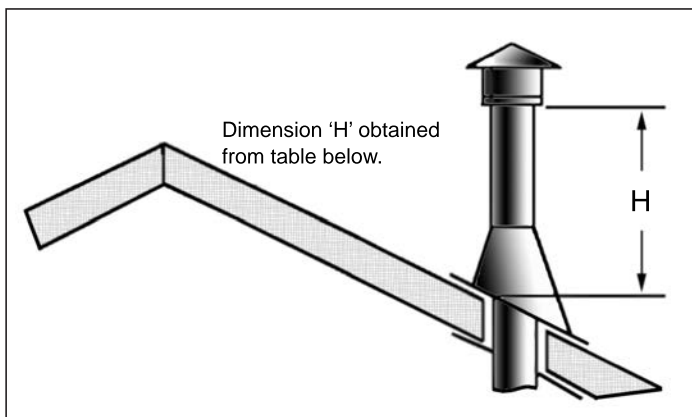

**Figure 29: Vertical Vent Termination Installation.**
6. Once the pipe sections have been joined, and run up through the hole in the roof, slip an elbow strap over the exposed sections, bend the support straps outwards, and push the elbow strap down to the roof level, as shown in Figure 29. Tighten the clamp around the pipe section. Use a level to make sure the pipe is truly vertical. With roofing nails, secure the support straps to the roof. Seal the nails holes heads with non-hardening mastic. Trim the excess length of the support straps that extend out beyond the edge of the flashing.
7. Slip the flashing over the pipe section protruding through the roof. Secure the base of the flashing to the roof with roofing nails. Use a non-hardening sealant between the uphill edge of the flashing and the roof. Insure the roofing material overlaps the top edge of the flashing as shown in Figure 29. Verify that you have at least the minimum clearance to combustibles at the roof line.
9. Slip the storm collar over the pipe, and push it down to the top of the roof flashing as shown in Figure 29. Use the non-hardening sealant around the joint between the pipe and the storm collar.